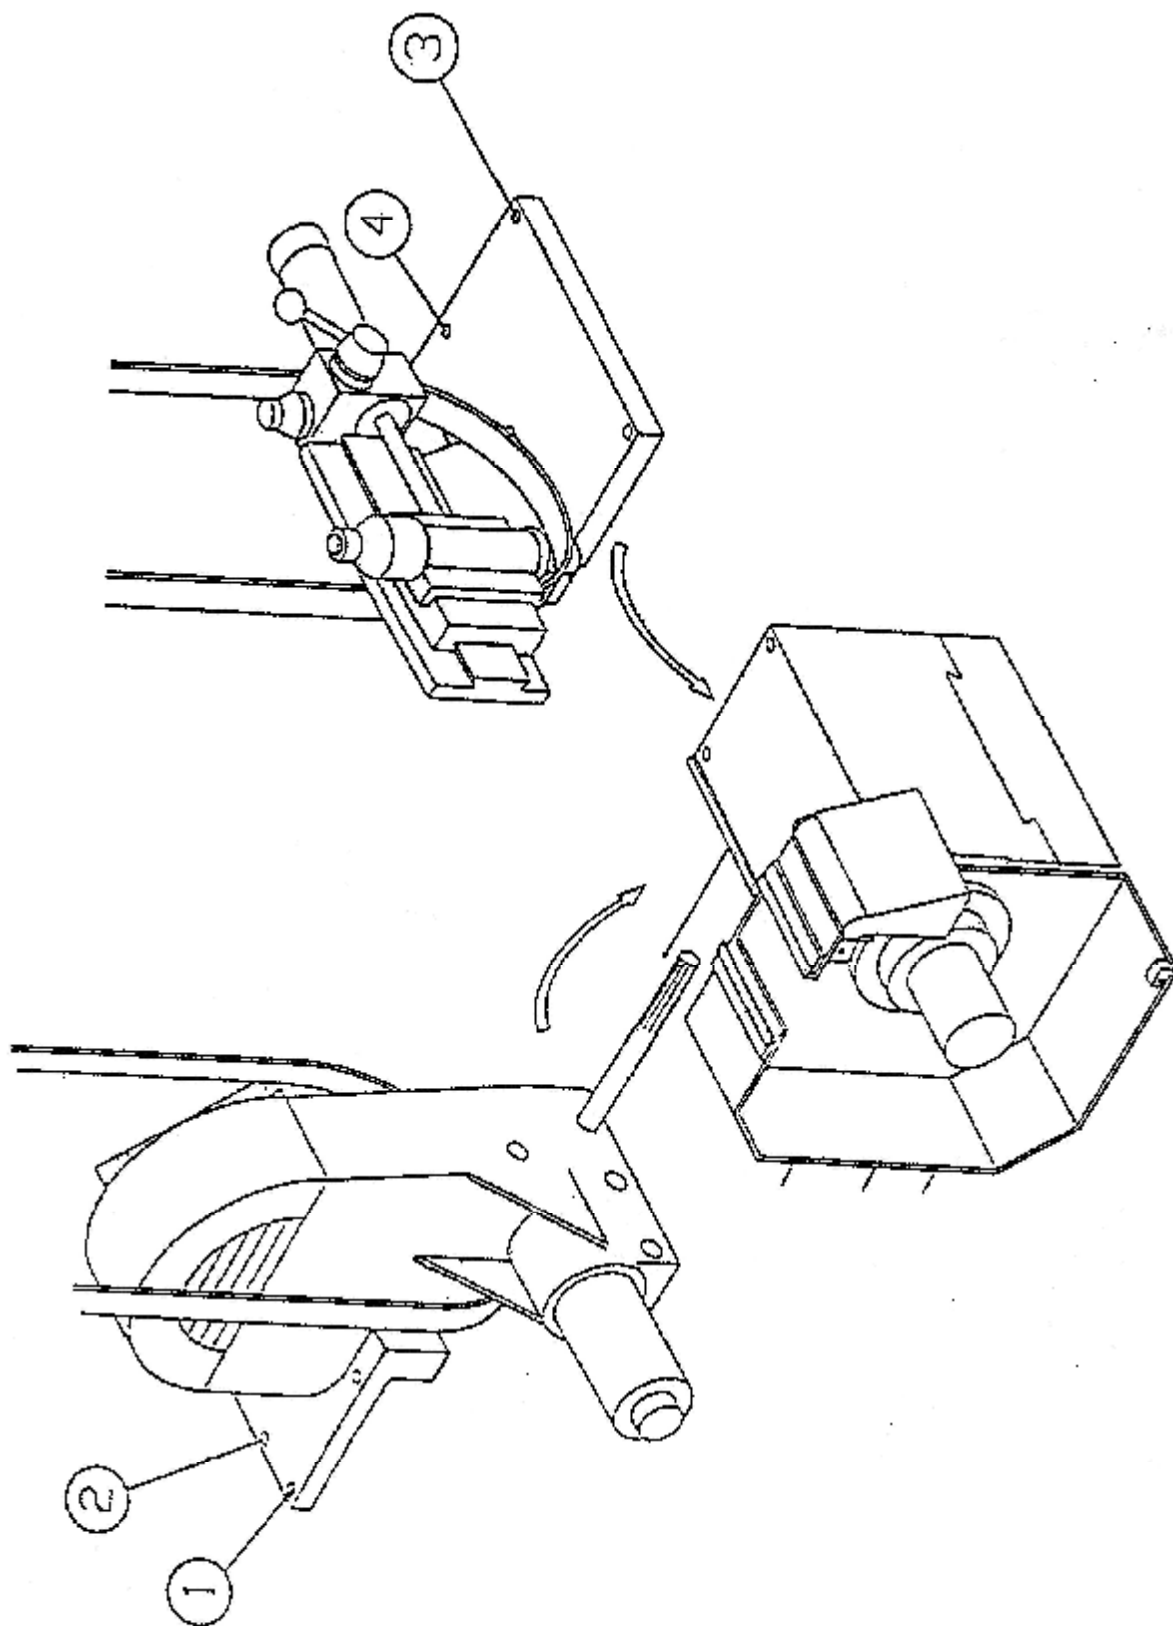

Fig. 18-1
2. Place a strap cross the internal grinding attachment and hang it up by a overhead crane.(Fig. 18-1)
5. Place a strap cross the hydraulic parallel dressing attachment. (Fig. 18-1).